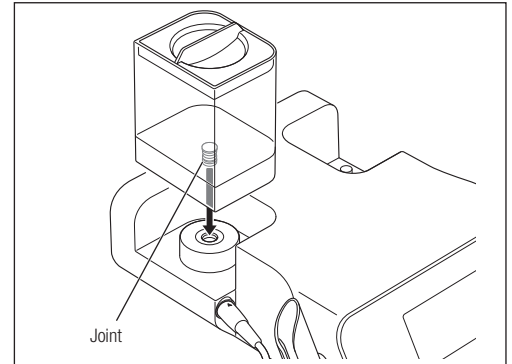

Fig. 13
- 3) Close the Irrigation Bottle Cap securely and insert the Bottle Joint straight into the Irrigation Bottle Base Connector (Fig. 13). Pull the Irrigation Bottle straight up to remove it.